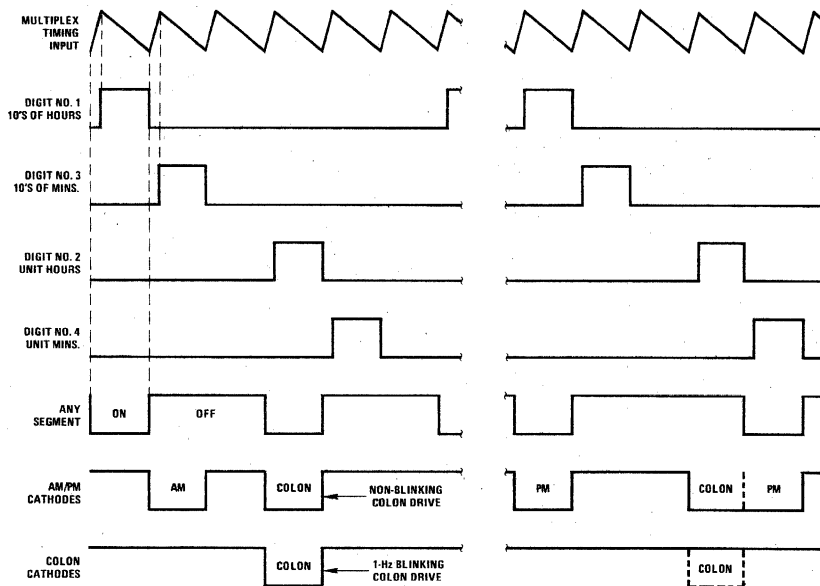

FIGURE 3. Output Timing Diagram
AM/PM Cathode Output (pin 16): Current with this writing, gas-discharge clock displays are available with two types of AM/PM indications, (1) AM and PM indicators common to digits 3 and 4 respectively; and (2) a PM only indication common to digit 1. Figure 3 illustrates an AM/PM cathode drive output that is compatible with both display types. Note that this same output also provides a non-blinking (steady) colon drive common to digit two. Power failure is shown by turning off this output at a 1 Hz rate.
Colon Cathode Output (pin 17): As an optional indication of clock operation, some users may prefer to display a 1 Hz activity. As shown in Figure 3, a cathode drive output is provided to facilitate a blinking colon.